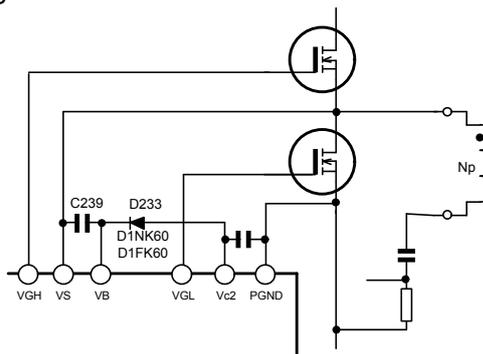

Fig.19. Boot strap for high side floating drive
High side floating voltage for high side drive (VB) is generated by boot strapping circuit from Vc2 shown in Fig.19.